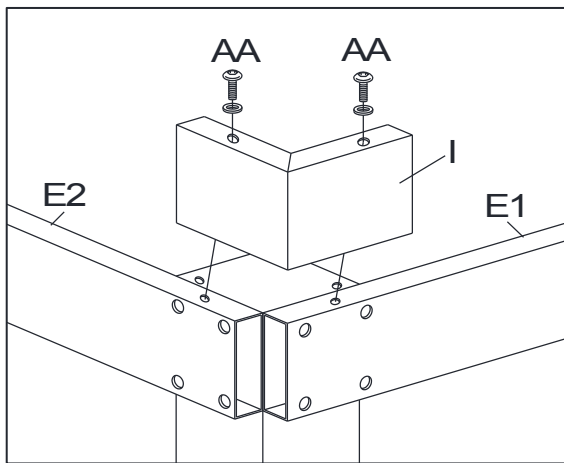

Fig.6
6. Attach the Corner Connector (I) to the Left Lintel (E1) and Right Lintel (E2) with Bolt (AA). See Fig.6.